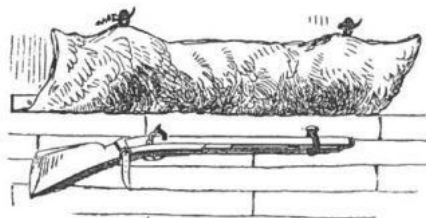

Fig. 1.
*Guns to hang up, to carry, and to clean.*—*Hanging Guns to a Wall.*—Fix a loop of leather for the muzzle, and a strap and buckle for the stock, with a piece of sheepskin or canvas nailed so as to hang over it, as in fig. 1. A more complete way is to sew a long pocket with a flap to it, which is tied up on to a stick or bar, as in fig. 2: the gun has simply to be